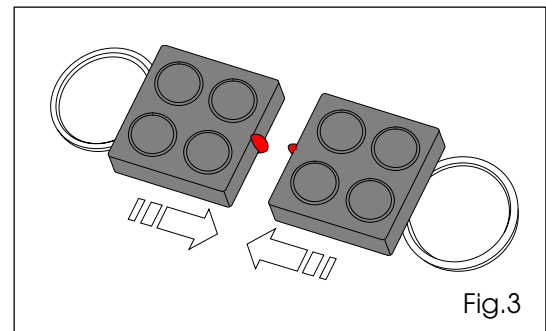

Fig.3
- Frontally bring into contact the master TX and the TX to be coded (master or slave) as shown in figure 3;